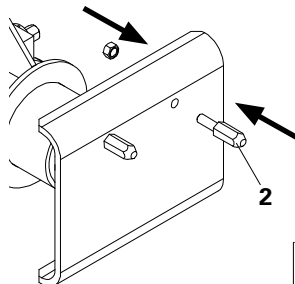
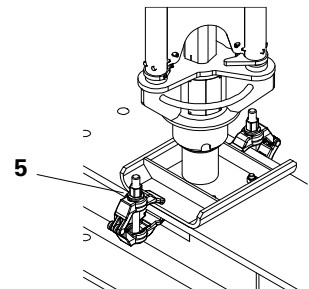

Fig. 13a
Fig. 14
1. Insert two Centering Bolts M12 (2) from below through the holes and secure using two hex. nuts by turning in a clockwise direction. (Fig. 13a)
2. Align the Lowering Device HDA on the bottom Main Beam HDT (4) to the respective holes, see Project Plan.
3. Secure with two Main Beam Clamps (5). (Fig. 14)